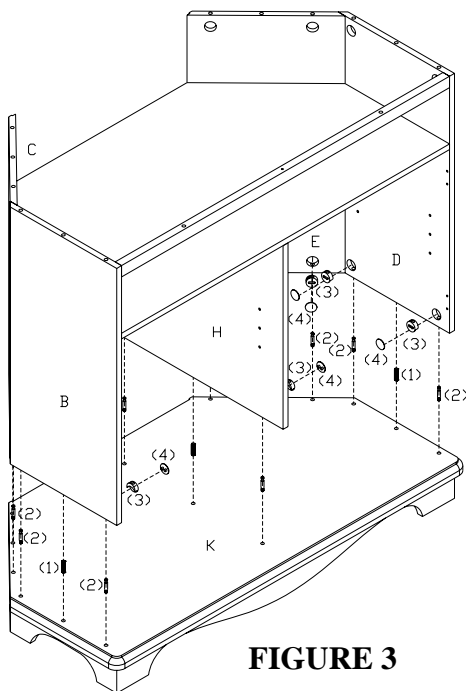

FIGURE 3
5. INSERT WOOD DOWELS (1), CAM-BOLTS (2) INTO PREDRILLED HOLES ON BASE (K), WITH AN ASSISTANT, FIT WOOD DOWELS (1) AND CAM-BOLTS (2) INTO CORRESPONDING HOLES ON BOTTOM EDGES OF PARTS (B, C, D, E, H). INSERT CAM-LOCKS (3) INTO LARGE HOLES ON PARTS (B, C, D, E, H) WITH ARROW FACING TOWARDS HOLE. ROTATE CAM-LOCKS (3) CLOCKWISE TO SECURE CAM-BOLTS (2) BY USING WRENCH (5). PUSH COVERS (4) INTO CAM-LOCKS (3). ASSEMBLE TOP PANEL (A) IN SAME MANNER, AND TIGHTEN LARGE FLAT HEAD WOOD SCREW (8) THROUGH PREDRILLED HOLE ON CROSS BRACE (J) INTO TOP PANEL (A). AS SHOWN IN FIGURE 3 & 4.